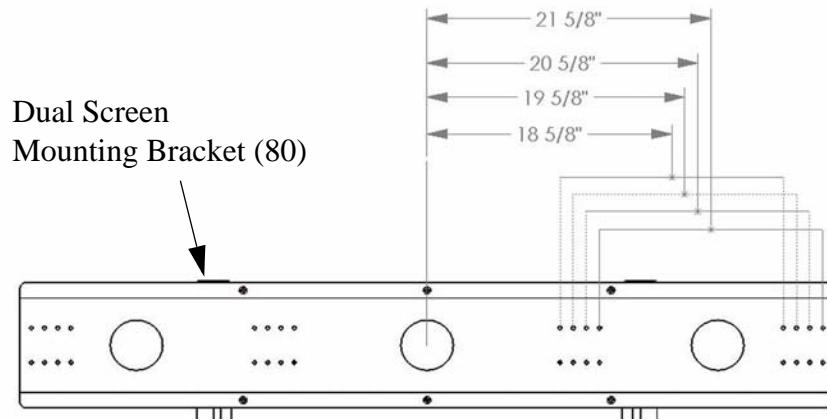

Figure 7. Dual Screen Mounting Bracket Head Measurements
2. Using the measurement found in Step 1 and the faceplate (50) as a template, measure from the center of the dual screen mounting bracket (80) to find the correct mounting holes for your application (see Figure 7).